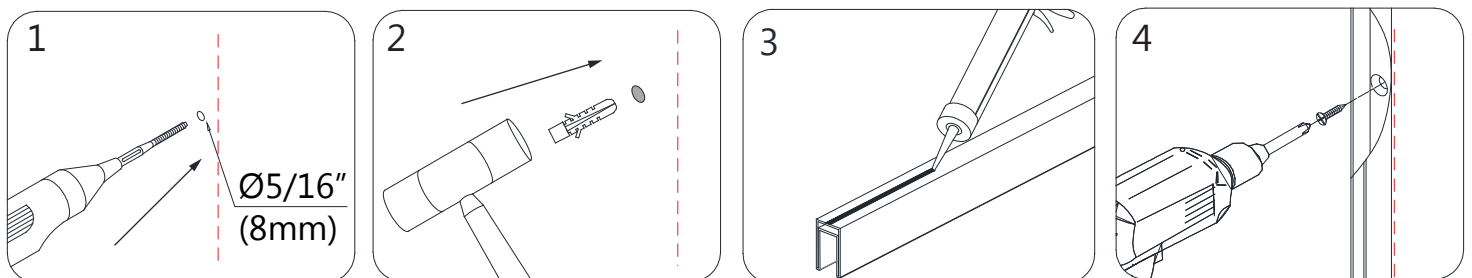

Fig 4
4. Set the **U-Channel (#01)** aside and drill the holes in the wall using a **Ø5/16"** drill bit and insert the **Ø5/16" Plastic Wall Anchors (#16)** into the holes. Apply silicone into the screw holes and to the back surface of the U-channel. Attach the **U-Channel (#01)** to the wall using the **ST4.2×40 Countersunk Screws (#17)**. **(Fig 4)**